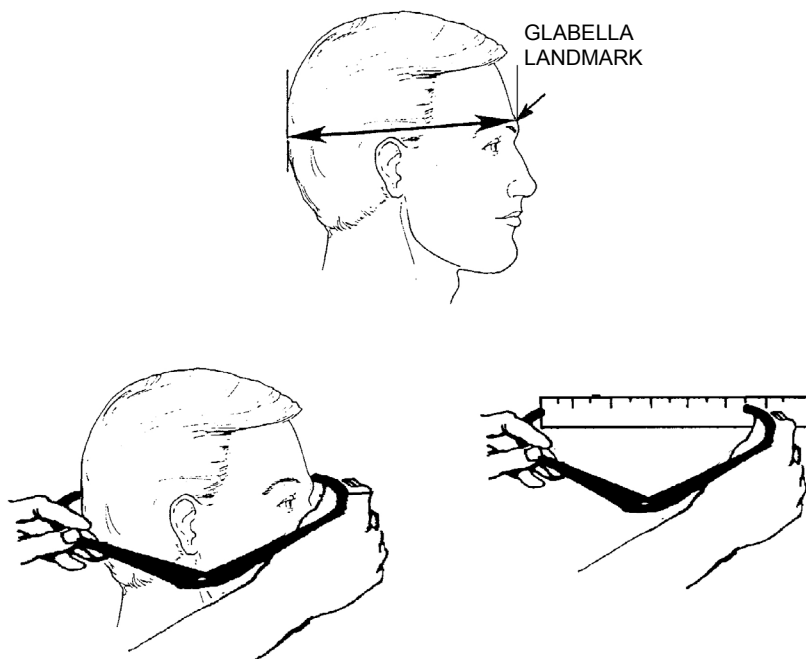

Figure 1. Measuring Head Length.
- Use a caliper and a ruler as shown in Figure 1 to measure the distance (to the nearest 1/16 inch) from the point between the eyebrows (the glabella landmark) to the back of the head. This is the head length. Ensure that the caliper touches the skin lightly and does not indent the skin surface.